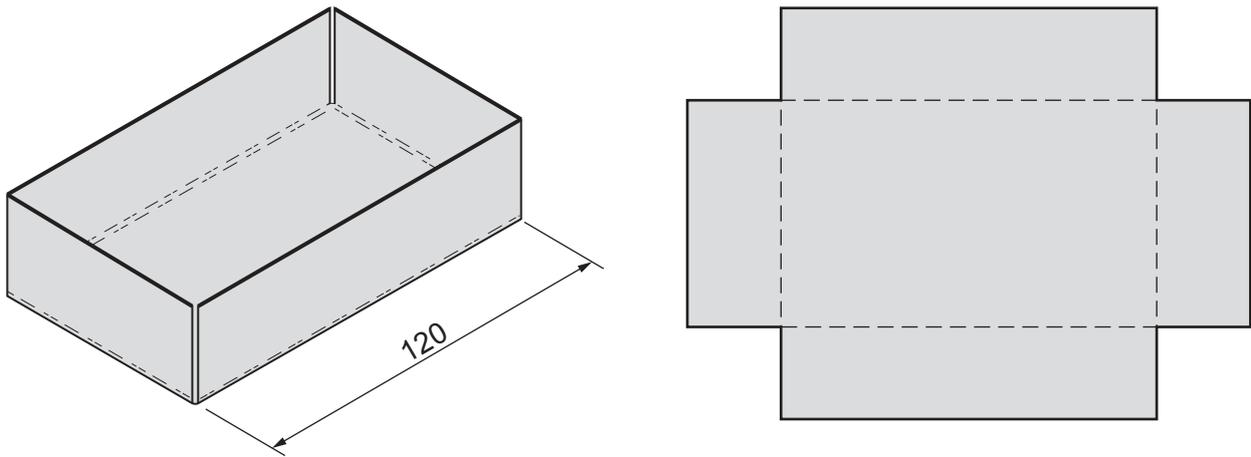

Fig. 3.1
- 3 Fig. 3.1 shows the outline shape and a development (net) for a tray made from 1.5 mm mild steel sheet.
- (a) Add flaps to the development (net) shown in Fig. 3.1 that would enable the sides of the tray to be joined correctly when bent to shape. [2]